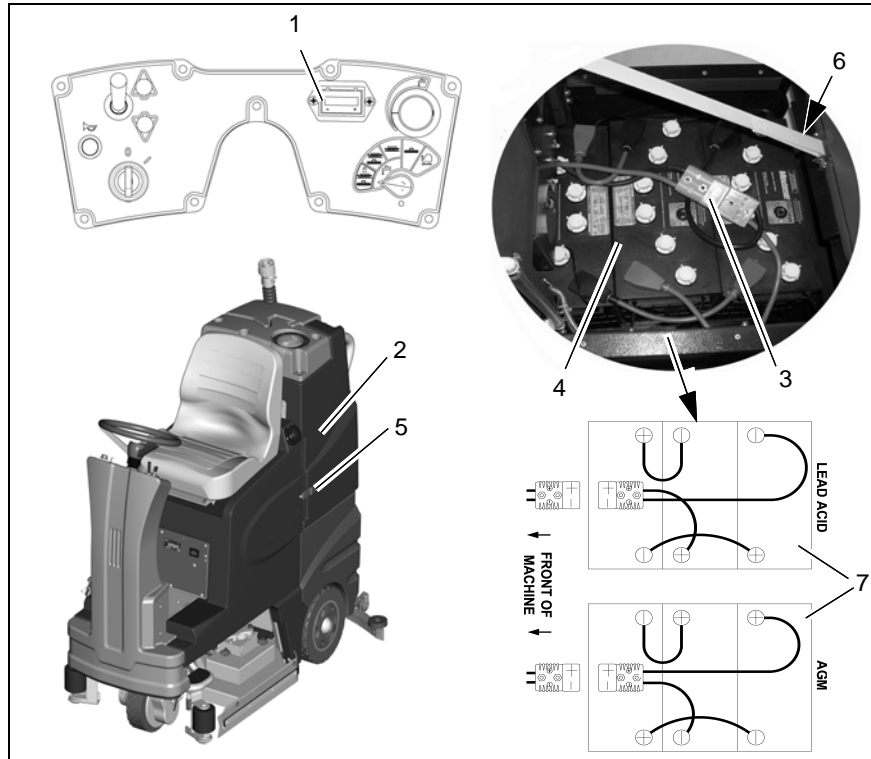

Fig.14
Connect the charger to the battery connector (Fig. 14/3) Charging batteries is recommended if at least one bar of the battery gauge has extinguished after operation of the machine. Observe the operating instructions of the charger as well as the operating instructions of the battery manufacturer. In case it is intended to change the type of battery the charger has to be adjusted only by PowerBoss contract workshops.
3. Open empty recovery tank (Fig. 14/2) and secure by strap (Fig. 14/6).
4. Disconnect battery connector (Fig. 14/3).
2. Open empty recovery tank (Fig. 14/2) and secure by strap (Fig. 14/6).
4. Connect battery poles and enclosed connecting cables according to battery connection/layout (Fig. 14/7). Tighten and grease poles.